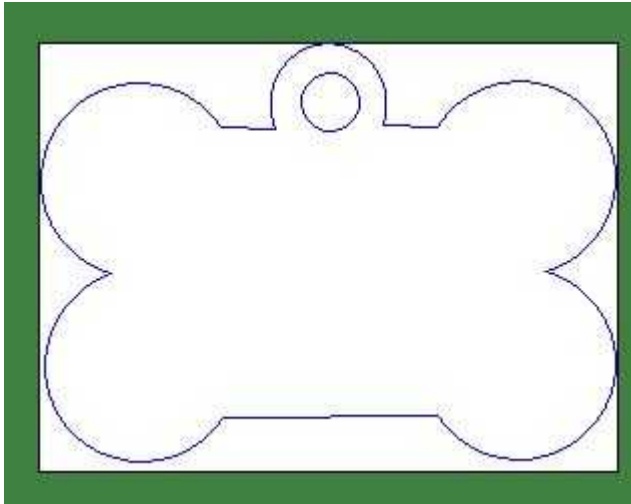

Figure 1
- 4 Once you have chosen the template you require, in this example "Bone", it will now be on your screen, see Figure 1.